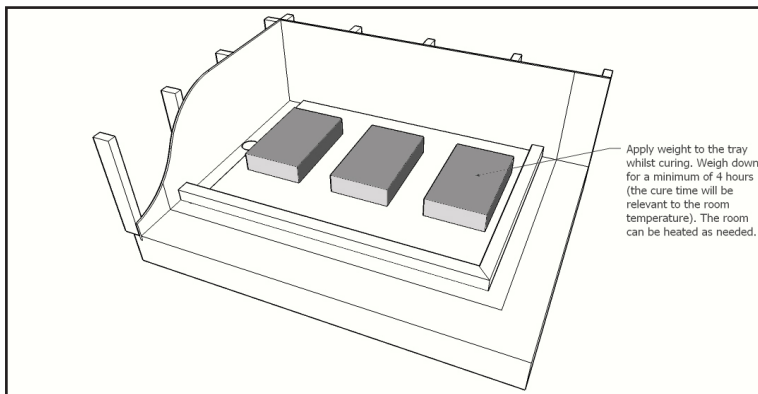

Fig. 5.1: Apply weights to the base whilst the adhesive cures.
- a)** Once the adhesive bed is applied, fit the base back into place and press firmly over the entire surface ensuring 100% coverage. Weight the base and check level again before leaving to cure. (See Fig. 5.1)